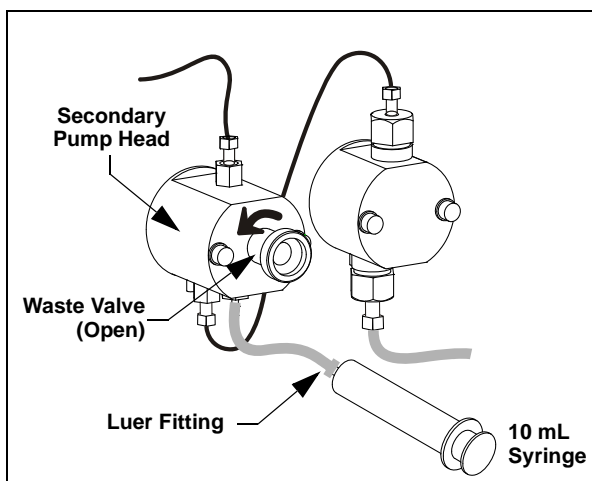

Figure 29. Priming the eluent lines
- Disconnect the waste line from the luer fitting on the secondary (left) pump head and connect a 10 mL syringe (P/N 079803) to the luer fitting (see Figure 29).